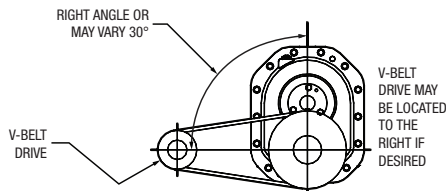

Figure 3 - Angle of V-Drive
5. If not using a Dodge Torque-Arm II motor mount, install motor and V-belt drive so belt will approximately be at right angles to the centerline between driven and input shaft (Figure 3). This will permit tightening the V-belt with the torque arm.